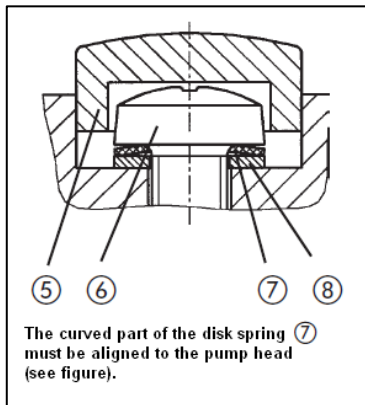

Fig. 21: Orientation of disk spring
7. Place the head plate (3) on the intermediate plate (1), in the position indicated by the marking.
9. Join the head plate (3) and the intermediate plate (1) by tightening the two screws (6) (hand-tight).
i For placement of disk spring (7) and washer (8) and for orientation of disk spring see Fig. 21.
10. Install the screw caps (5).